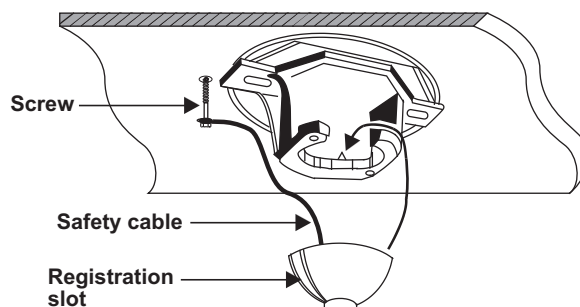

Figure 8
10. An additional safety support is provided to prevent the fan from falling. Secure the safety cable to the ceiling joist with screw and washer. (Fig. 8)